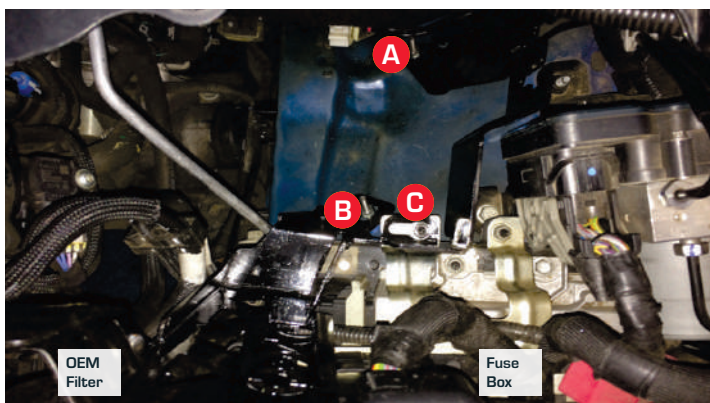

FIGURE 1
- 2 Position the bracket in the engine bay as per Figure 1, placing Point "A" at the rear hole on the front-left wheel house of the vehicle, placing Point "B" at the front hole and Point "C" at the fuse box stud.